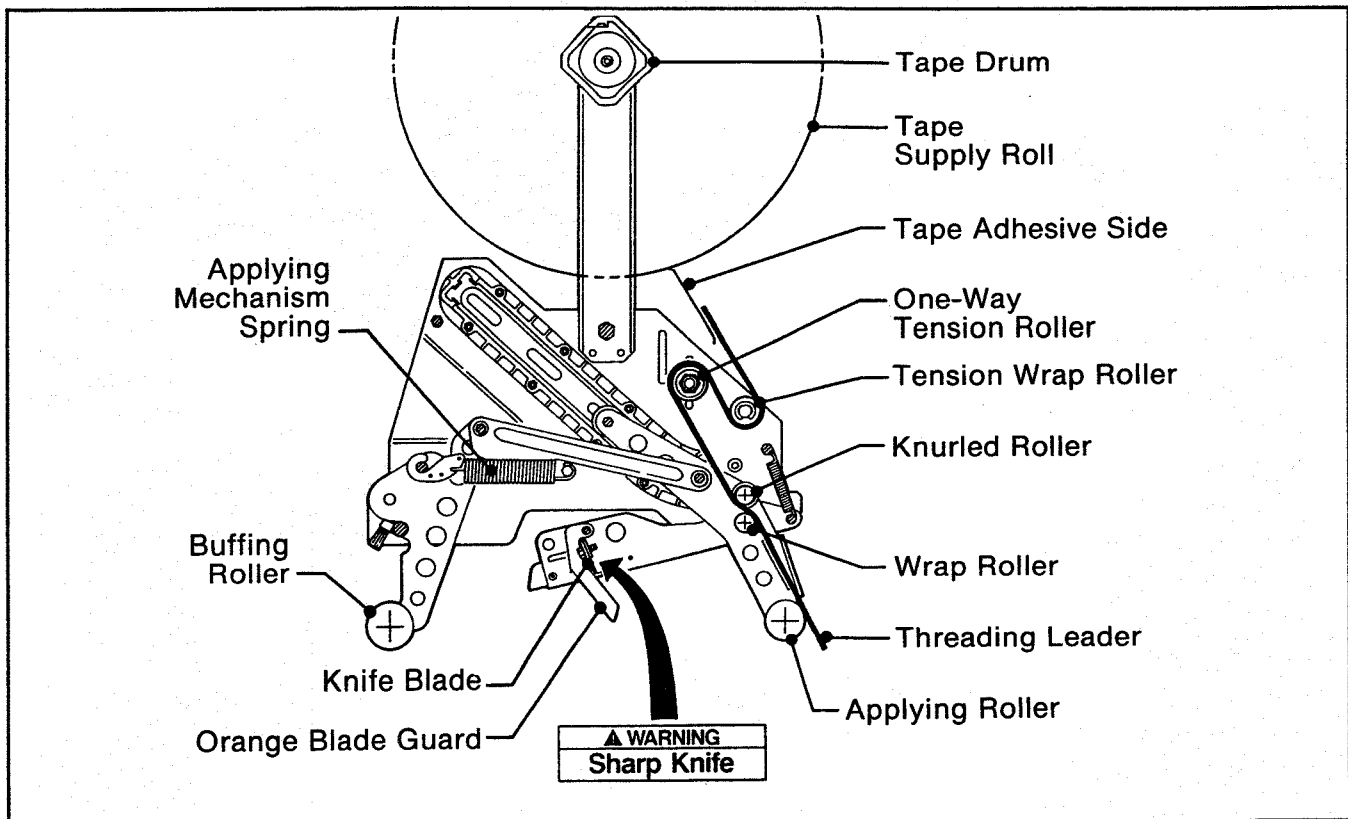

Figure 2-4 - Tape Threading Diagram, Upper Taping Head (Left Side View)
1. BOTH THE UPPER AND LOWER TAPING HEADS UTILIZE EXTREMELY SHARP KNIFE BLADES. THE BLADES ARE LOCATED UNDER THE ORANGE BLADE GUARD WHICH HAS THE "WARNING - SHARP KNIFE" LABEL. BEFORE WORKING WITH THE TAPING HEADS OR ATTEMPTING TO LOAD THE TAPE, REFER TO FIGURES 2-4 AND 2-5 AND IDENTIFY THE BLADE LOCATION. KEEP HANDS OUT OF THESE AREAS EXCEPT AS NECESSARY TO SERVICE THE TAPING HEADS.
The applying mechanism spring, shown in Figures 2-4 and 2-5, controls applying and buffing roller pressure on the box and returns the mechanism to the reset position. The spring pressure setting, as shown in Figure 3-3A, is for normal operation but is adjustable.
The **one-way tension roller** position on the taping heads (Figures 2-4 and 2-5) is adjustable to control the leading tape leg length.